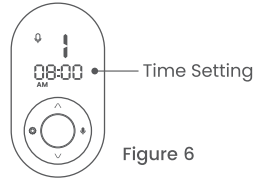

Figure 6
- **Dispensing time setting:** Press the dispensing key “○” to enter current meal dispensing time setting. When the dispensing time of 00:00 begins to flash, press the increase “^” or decrease key “v” to set the hours and minutes, and then press the dispensing key “○” to confirm the time. (Figure 6) (For example, the first meal is scheduled to be served at 08:00 AM. Here is the display interface.)